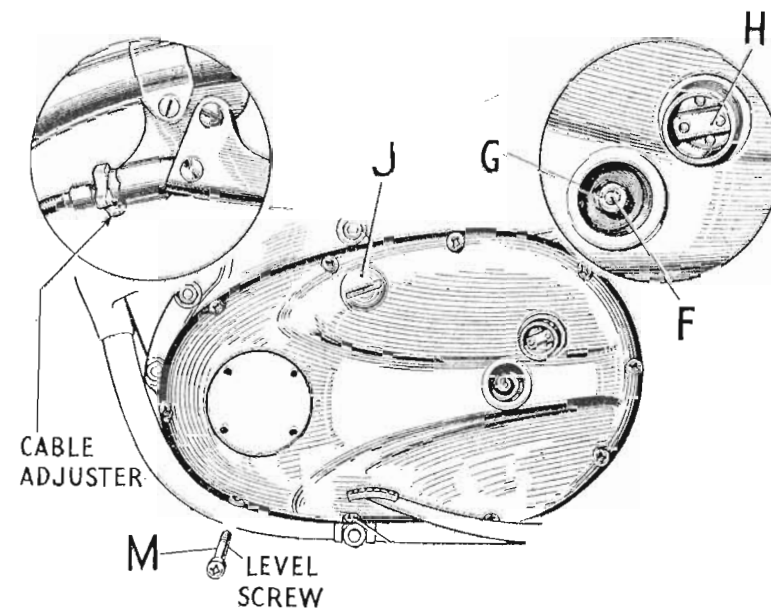

Fig. 15. Clutch adjustment and chaincase oil level.
The main adjustment consists of a screw pin (F) and locknut (G) mounted on the clutch pressure plate. These are accessible after removal of the inspection cover (H) Fig. 15.
The outer cover is retained by screws of three different lengths, and one of these (M) Fig. 15, which is painted red determines the oil level. To replenish with oil, first remove this screw and then the filler cap (J) at the top of the chaincase. Add oil of the correct grade (see Recommended Lubricants, page 37) and allow to stand until any surplus oil has drained away. Replace the level screw and inspection cap. The machine should be on horizontal ground when this operation is carried out. A drain plug is not provided because, when the cover is removed for chain examination at 2,000 miles, this serves the same purpose.